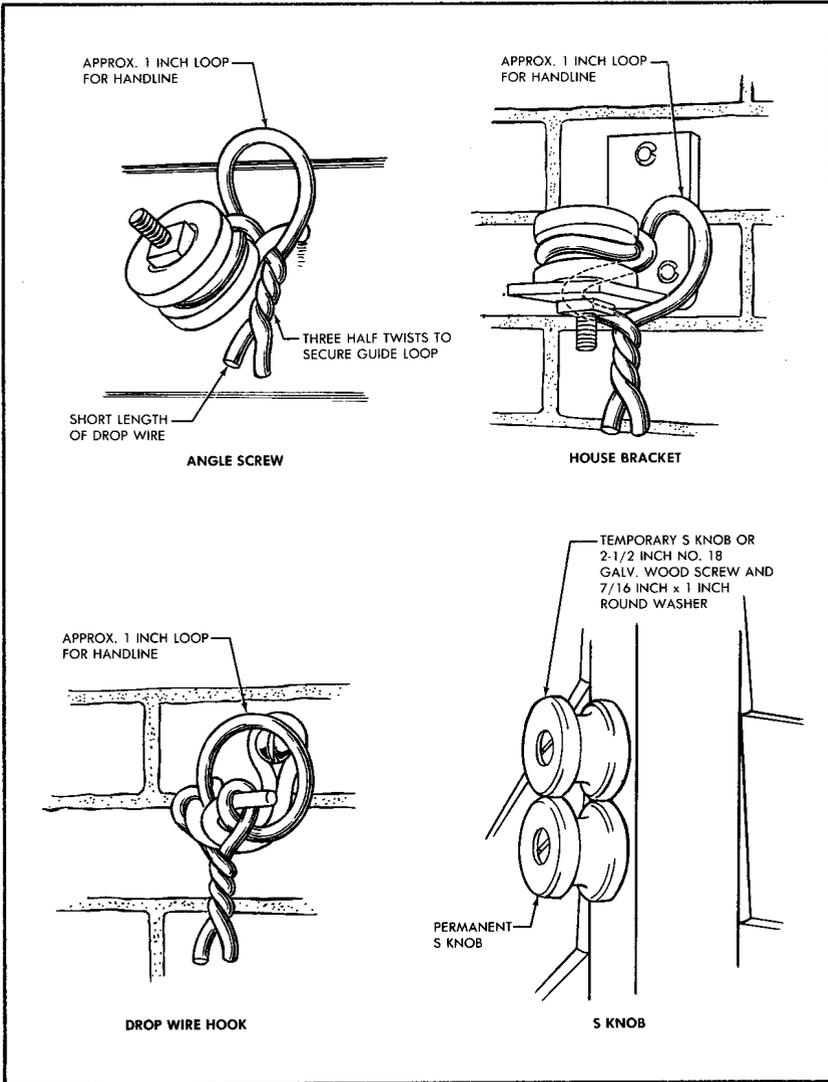

FIGURE 9. Temporary Guide Loop—Building
8.01 Place a drop wire between two buildings in the same manner as for a pole-to-building run, providing as much sag as practicable in the wire span. A temporary guide loop (Figure 9) should be installed on the first building attachment at which the wire span is to be raised; this will prevent accidental disengagement of the handline from the building attachment. Support the tension in the wire by lashing the handline (which was used in raising the wire) to a secure support near the base of the building, and install the second drop wire clamp on the span.